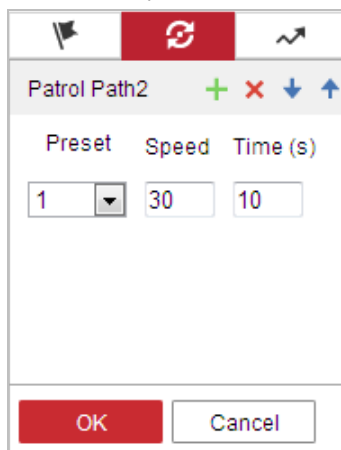

Figure 4-7 Adding Presets
3. Click to enter the adding interface of preset as shown in Figure 4-7.